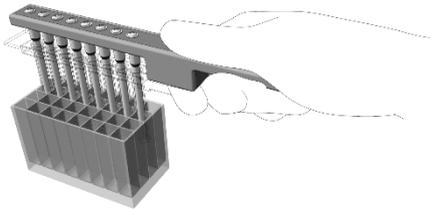

Figure 20. Collecting magnetic beads from **column 3**.
17. Using the IndiMag Handheld with the rod cover, slowly mix 10 times up and down to collect the magnetic beads from **column 3**. Wait until all the magnetic beads have attached to the rod cover (Figure 20).